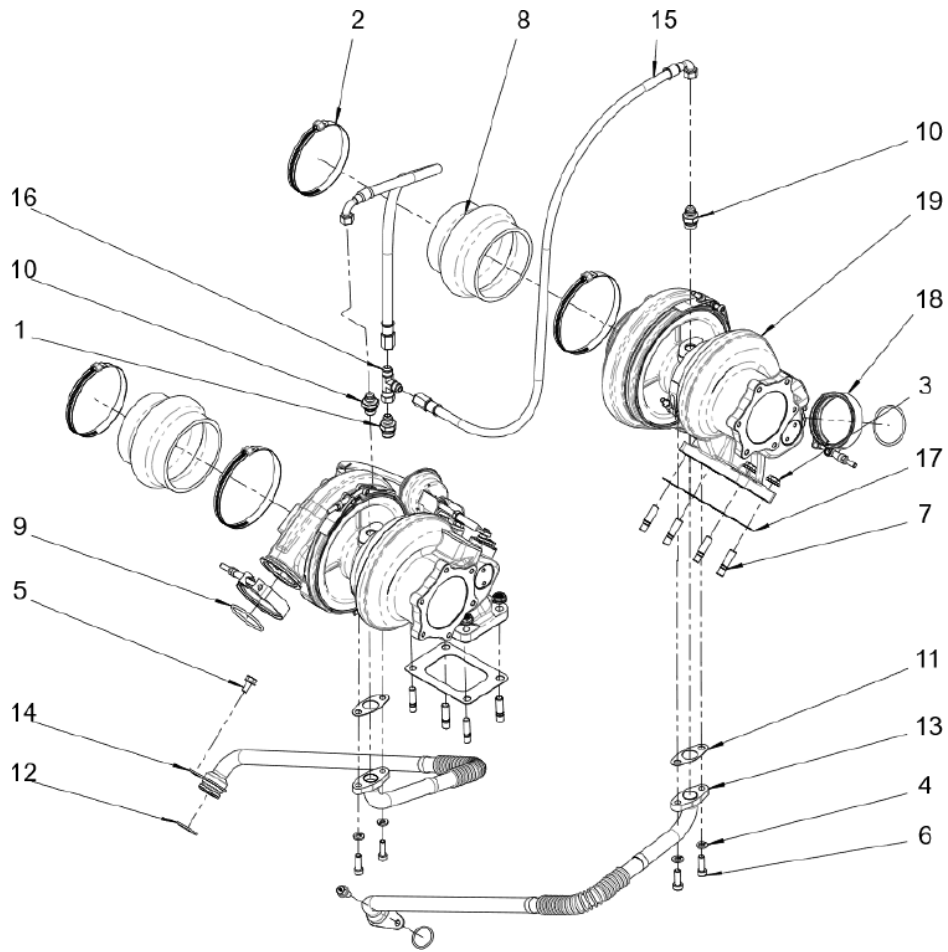

Figure 19. Turbocharger Assembly
6. Loosen both turbocharger hose clamps (Figure 19, items 2 and 18) from each turbocharger.
7. Remove the four turbocharger nuts (Figure 19, item 3) from each turbocharger.